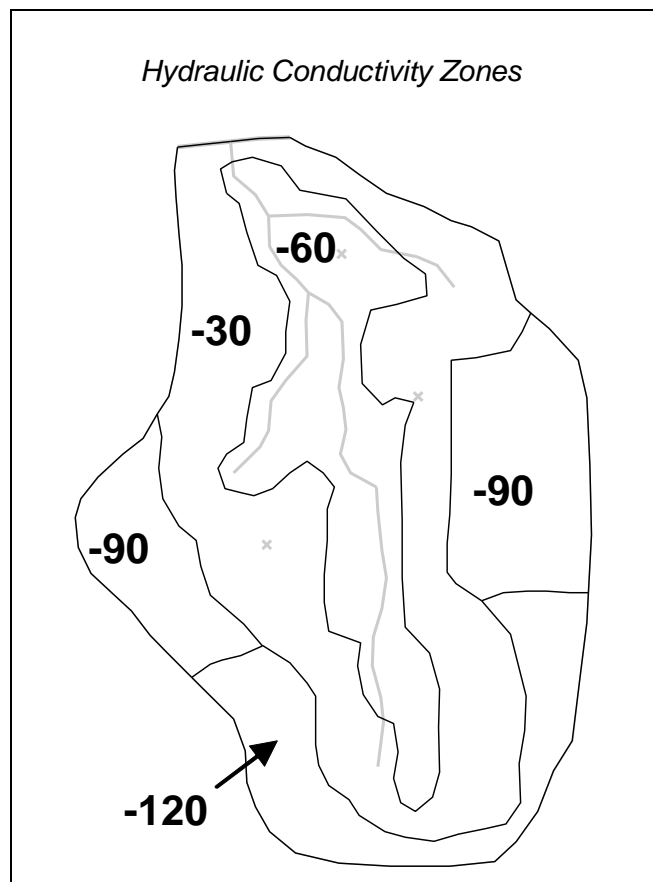

Figure 3 Hydraulic conductivity zones and parameter key values
First, set up the hydraulic conductivity zones. The hydraulic conductivity polygons are shown in Figure 3. The five polygons will be used to define five parameter zones. The key values associated with each of the five zones are shown on the polygons in the figure.
2. Using the **Select Polygons** tool, double-click on the central polygon with the value of “-60” (see Figure 3) to open the *Attribute Table* dialog.
4. Repeat steps 2-3 for the remaining four polygons, entering the parameter key values as indicated in Figure 3.